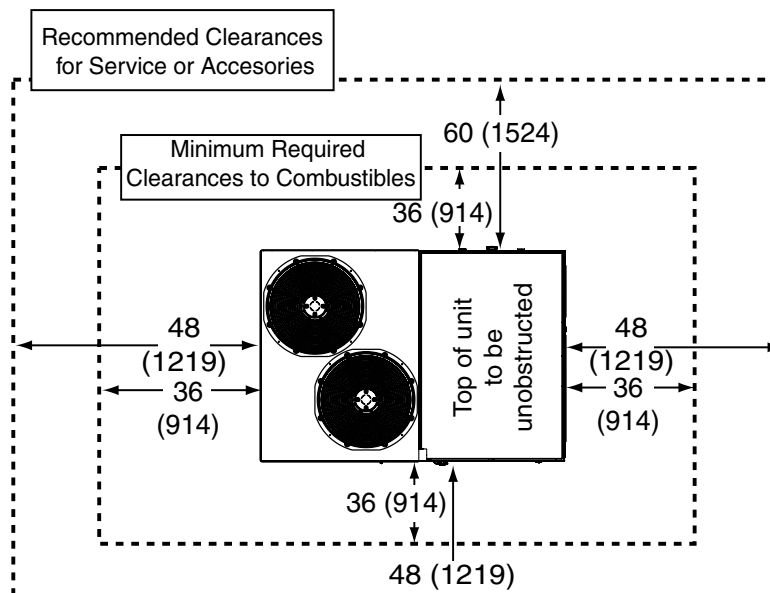

Figure 3. Minimum Clearance Requirements
These units are certified as combination heating and cooling equipment for outdoor installation only. **Figure 3** shows the minimum clearances to combustible materials for both vertical and horizontal discharge options.
- Sufficient clearance for unobstructed airflow through the louvered control access panel and outdoor coil must be maintained in order to achieve rated performance. See **Figure 3** for minimum clearance requirements.